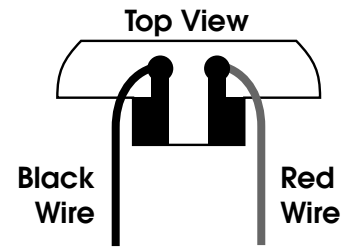

Fig. 1
- Unsolder bulb from light board without removing insulation tubing. Use an A unit headlight board for B units. Solder BLACK and RED wires to light board as shown (Fig. 1). Solder WHITE and BLUE wire to bulb (use shrink tubing on each wire). BLUE and WHITE wires are not used in B unit.